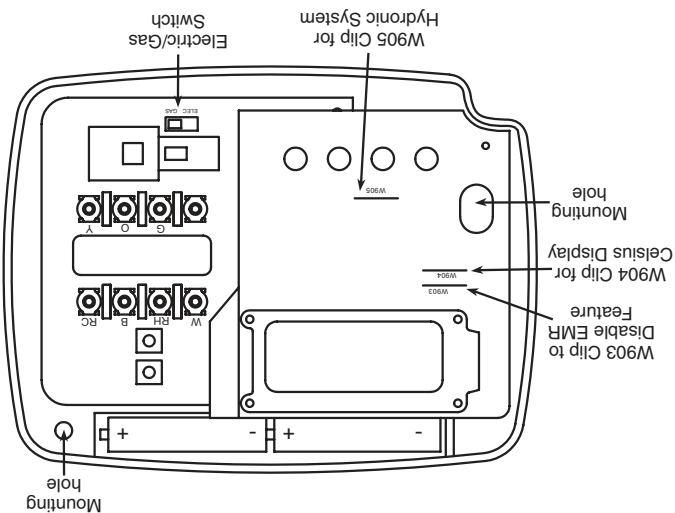

Figure 1. Thermostat base
This thermostat is configured from the factory to operate a heat/cool, fossil fuel (gas, oil, etc.), forced air system. It is configured correctly for any system that DOES NOT require the thermostat to energize the fan on a call for heat. If your system is an electric or heat-pump system that REQUIRES the thermostat to turn on the fan on a call for heat, locate the **GAS/ELECTRIC** switch (see fig. 1) and switch it to the **ELECTRIC** position. This will allow the thermostat to energize the fan immediately on a call for heat. If you are unsure if the heating/cooling system requires the thermostat to control the fan, contact a qualified heating and air conditioning service person.
To disable EMR, clip jumper W903 (see Fig. 1).
5. Fasten base loosely to wall, as shown in fig. 1, using two mounting screws. Adjust until level, and then tighten screws. (Leveling is for appearance only and will not affect thermostat operation.) If you are using existing mounting holes, or if holes drilled are too large and do not allow you to tighten base snugly, use plastic screw anchors to secure subbase.
This thermostat requires 2 "AAA" alkaline batteries to operate. If **CHANGE** is displayed, the batteries are low and should be replaced. For best results, replace batteries once a year with new premium brand alkaline batteries such as Duracell® or Energizer®. To replace the batteries, install the batteries along the top of the base (see fig. 1). The batteries must be installed with the positive (+) ends to the right.